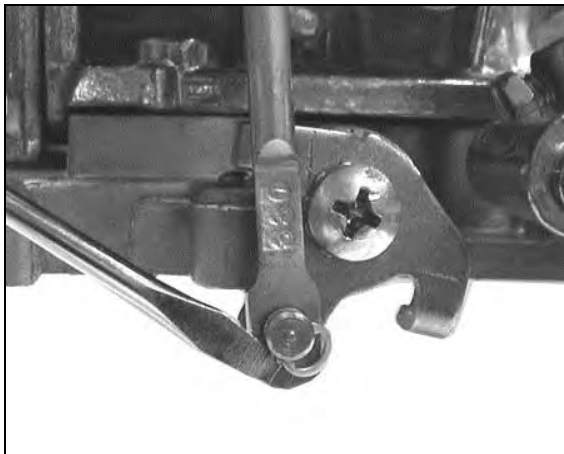

Figure 13
3. Remove the clip retaining the diaphragm plunger to the secondary throttle lever using a small flat-blade screwdriver (Figure 13).